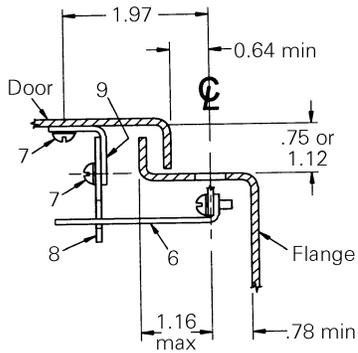
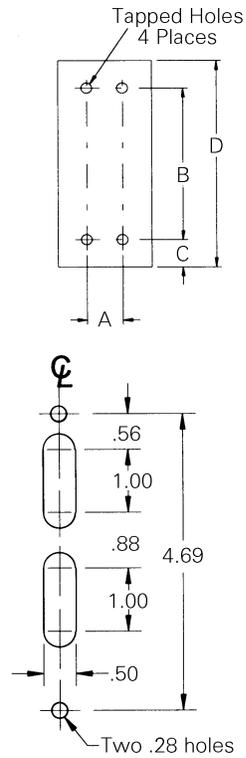
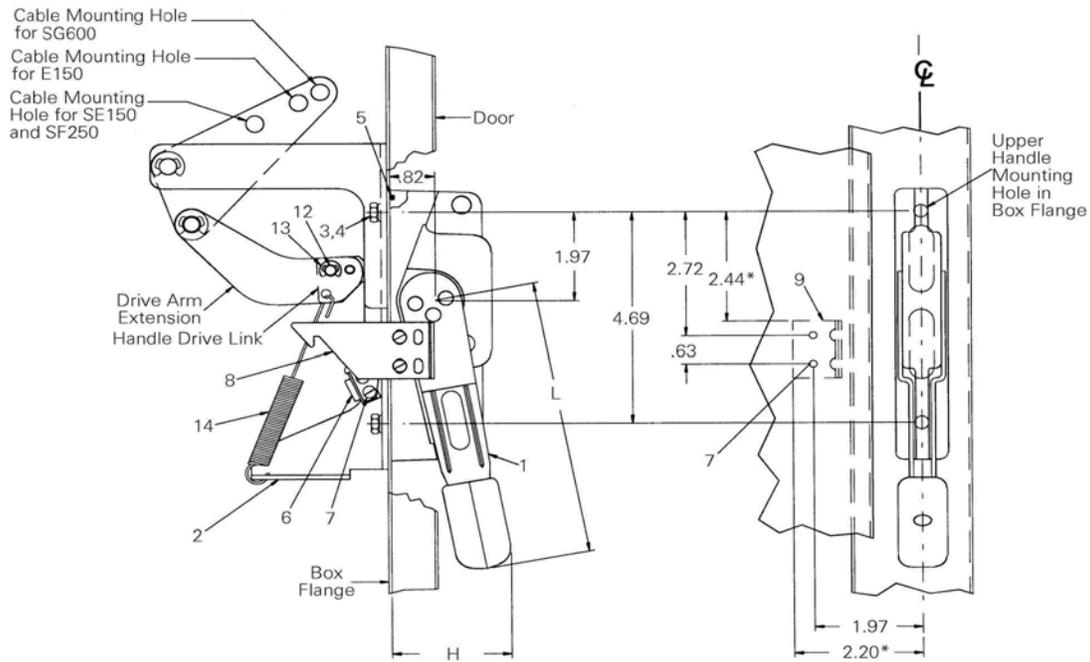

Figure 1. End view of flange and cover (right end shown).
Figure 2. Flange details.
Figure 3. Handle Installation.
Table 4. Handle Dimensions (see Figure 3)
1. Referring to Figure 1, Figure 2, and Figure 3, determine the location of the handle on the flange of the enclosure. The handle can be mounted on either the right or left side of the enclosure.
2. If the flange is not provided with handle holes and slots, drill these as shown in Figures 1 and 2. Remove any burrs.
4. Assemble the interlock blade [6] to the handle with two #8-32 sems screws [7], as shown in Figure 1.
5. Assemble the drive arm extension to the handle drive link with the connecting pin [12]. Secure the connection with an E-ring [13], as shown in Figure 3.
6. Attach one end of the handle-return spring [14] to the hole in the drive link and the drive arm extension. Attach the other end to the hole in the lower flange of the cable adapter assembly, as illustrated in Figure 3.
7. Drill and tap two #8-32 holes in the cover, as shown in Figures 1 and 3. Assemble the interlock bracket [9] to the cover with two #8-32 sems screws [7] from inside the door. Alternatively, the bracket may be welded to the cover, using the dimensions noted with an asterisk (\*) in Figure 3, to locate the upper-left corner of the bracket, as illustrated in Figure 1.
Refer to Figures 3 and 7.